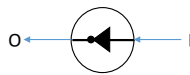

Figure 4: Inverter Node
- We define the *inverter node* in Figure 4 to have 1 input (**I**) and 1 output (**O**). The node negates the input token (i.e., $O = !I$).